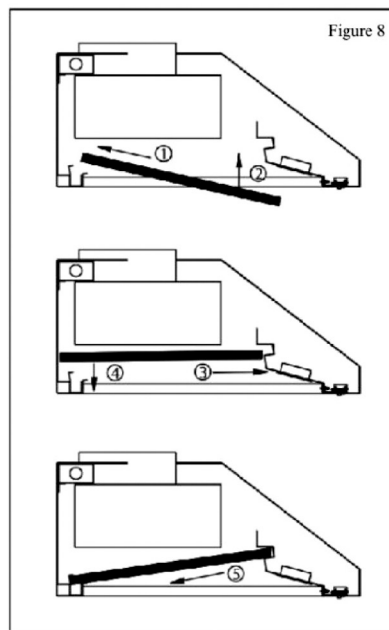

Figure 8
10. To install stainless steel baffle filters, refer to Figure 8 for the following five steps:
- ① Angle baffle filter toward back of hood.
- ② Push baffle filter up until almost level.
- ③ Slide forward into recess behind the front of hood.
- ④ Lower baffle filter.
- ⑤ Slide back until it fits into resting positions.